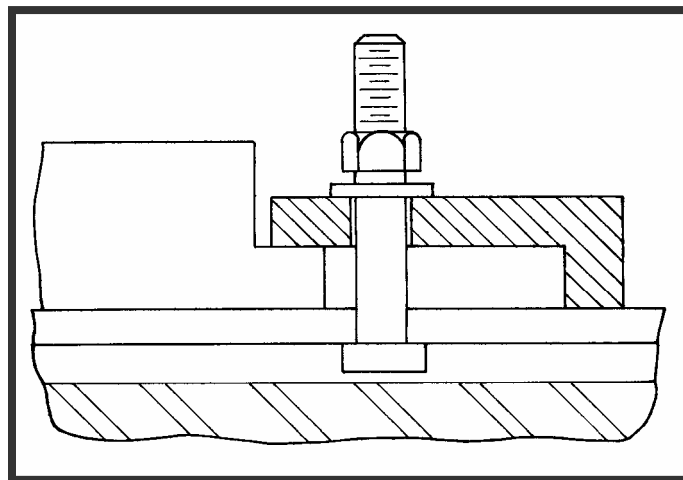

Figure 8. If too long a bolt is used, nut may bottom on the end of the threads and not actually hold the clamp in place. *Smith & Associates*
4. Figure 8 illustrates the nut bottomed on the threads and not holding the die.